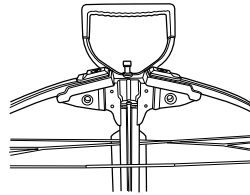

Figure 7
- 12 Slide the bow unit into place onto the barrel making sure the cables and cable slide are positioned in the cable slot in the barrel. The bow string should be resting on the top surface of the barrel and the cable slide will be held captive in the cable slot (See Figure 7).